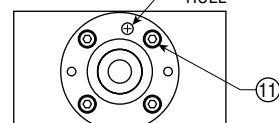
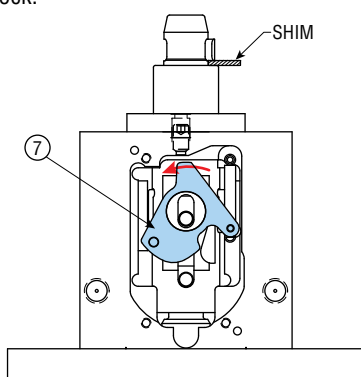

FIGURE 6
FIGURE 3
- 3) Install the shims under the finger(s) to match the panel thickness required. (See Figure 3.) Actuate the PLKD to clamp on the shims with air pressure (87 psi [6 bar]). The lock bracket assembly (item 7) will rotate counter-clockwise into position under the adjustment screw.
- 6) Unclamp the unit, remove the shim and two fasteners (item 11).
- 7) Rotate the part support (item 1) 180° so the adjustment screw is hidden as shown (Figure 6).
- 8) Add the four screws (item 11) back on and tighten to 44 in-lbs [5 Nm].
CAUTION: The PLKD unit requires the cover plate (item 22) with the cover plate assembly (item 20) to be **completely** mounted to the unit with the screws (3X item 14). The locking bracket assembly (item 7) will not properly sequence without these correctly assembled. Figures 3 through 5 are for reference to describe how to set the lock.